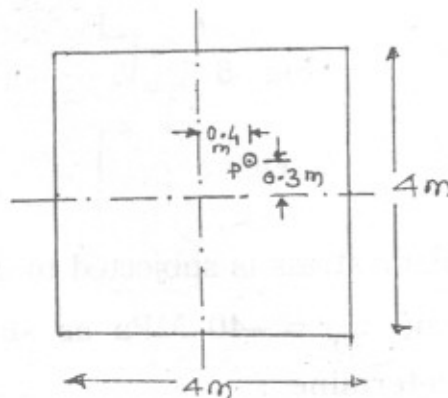

Fig. 8
- (b) Determine the stress resultant at four corners of column subjected to eccentric load of $P = 600$ kN, shown in Fig. 8. [8]